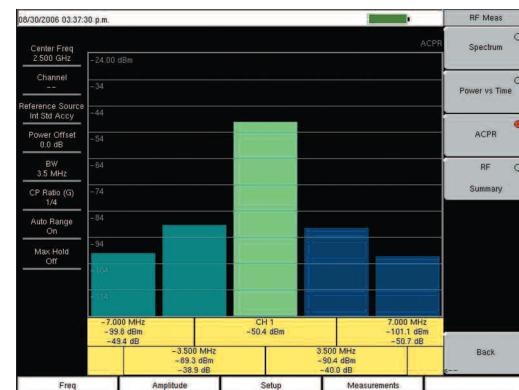

Figure 6. ACPR view.
2. Press the ACPR soft key to activate the measurement. The red dot on the soft key indicates it is selected (Figure 6).